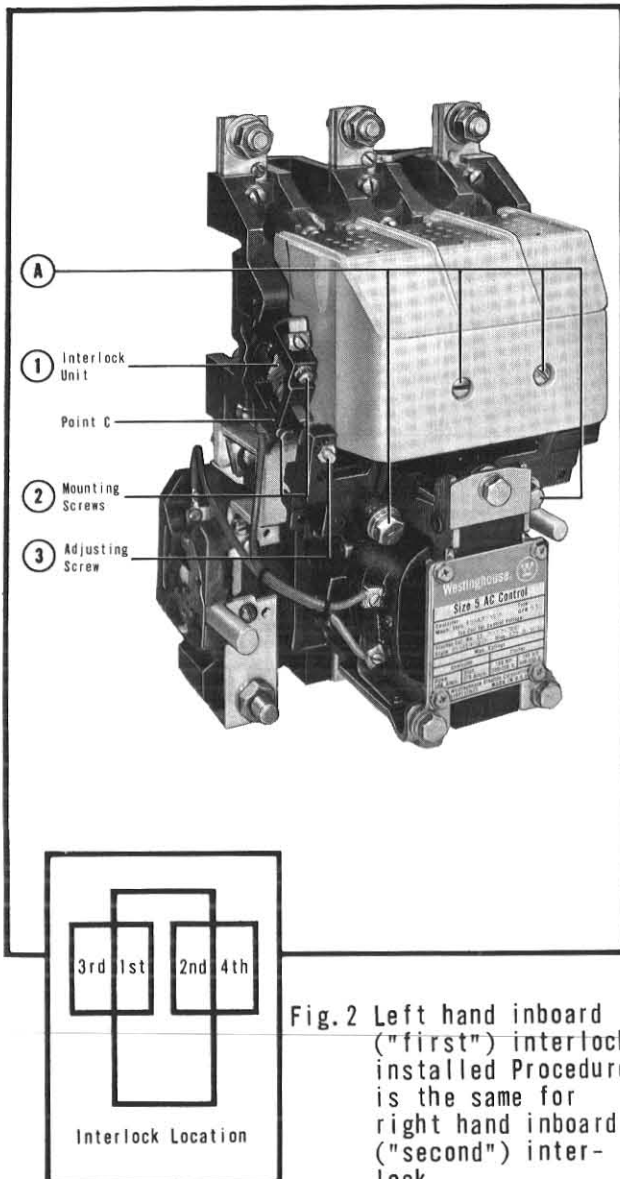

Fig. 2 Left hand inboard ("first") interlock installed. Procedure is the same for right hand inboard ("second") interlock.
1. Install assembled contact unit (1) on the contactor base and secure it with screws
(2) and two nuts (5). See Figs. 1, 2. Arc box and moving cross bar of contactor may be temporarily removed to facilitate this operation by taking out the four screws (A). (Fig. 2).